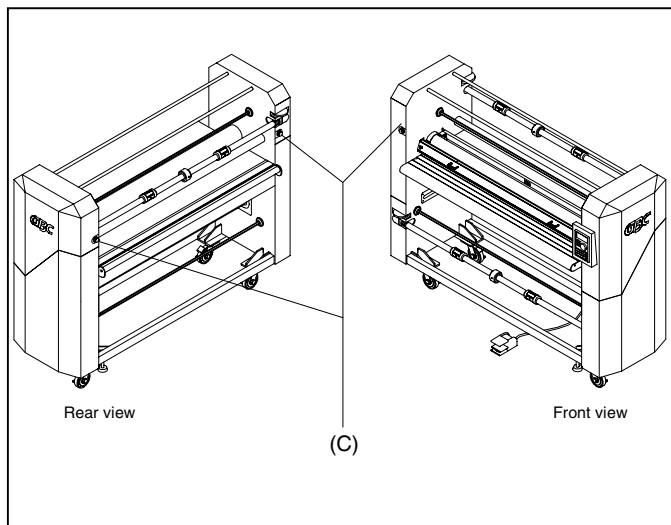

Fig. 10
C. E-STOP: Three emergency stop buttons exist on the laminator. One located at the right front and two at the rear. (Figure 10)